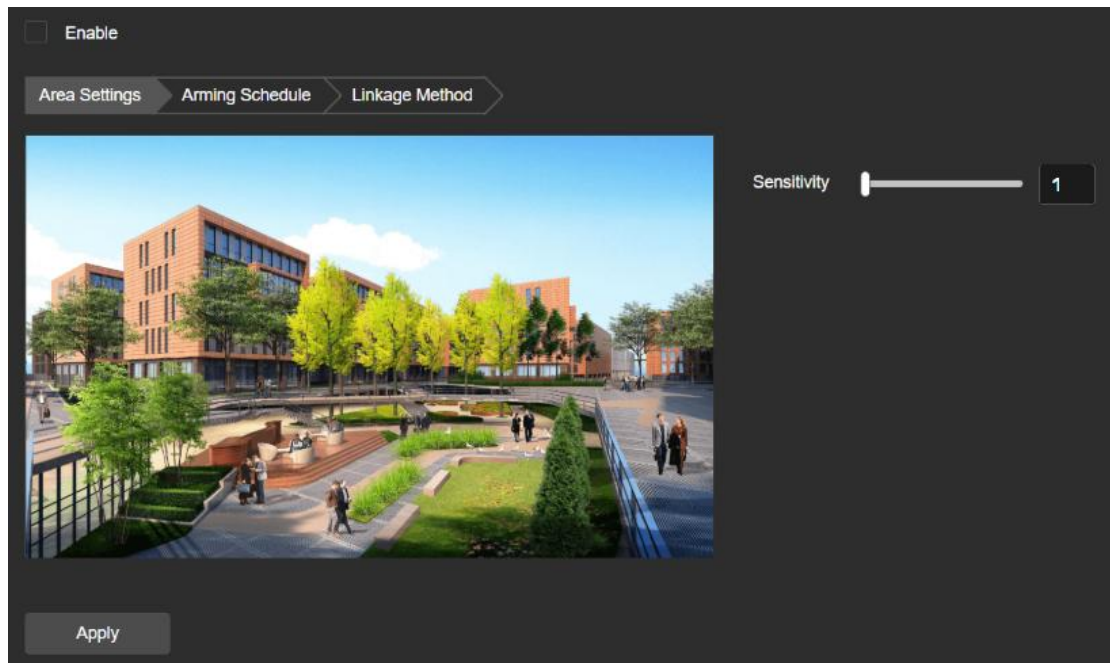

Figure 8-6-5
Step 1: In the main interface click on the "configuration → Event → Basic Event → Video Tampering" to enter the video tampering settings interface, as shown in Figure 8-6-5.